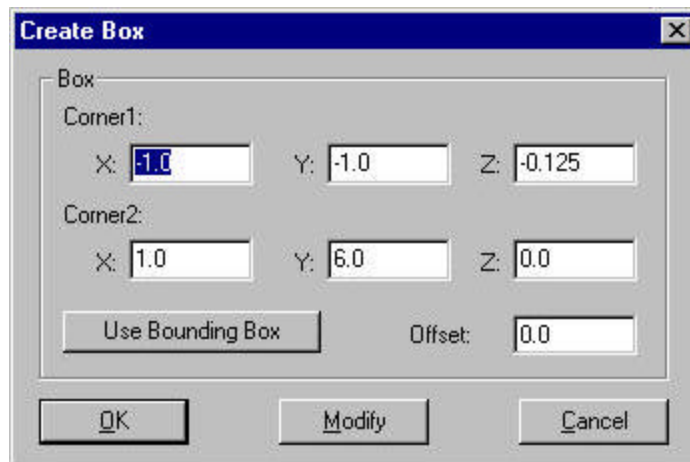

Figure 7: Stock size
- 5.) A menu, as seen in figure 7, will appear. Fill in the numbers as seen in figure 7. If these are not readable, use the following table to establish these dimensions: